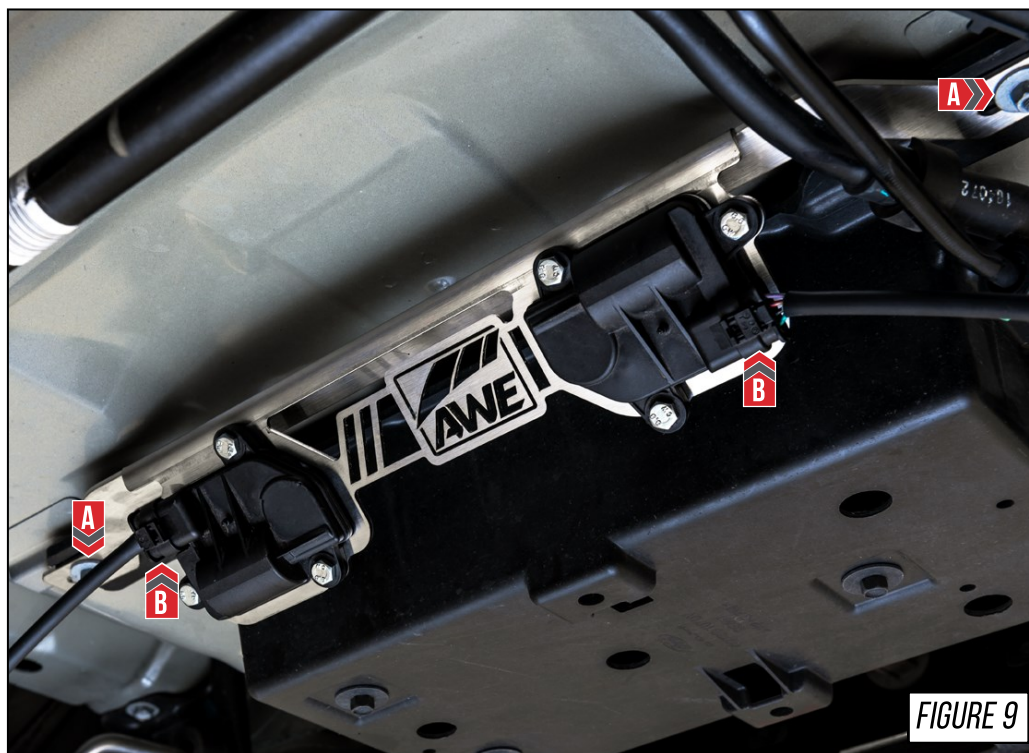

FIGURE 9
Locate the two (2) nuts on the bottom of the spare tire well, underneath of the vehicle, shown by **Arrow A** in **Figure 9**.
Using the included hardware, secure the factory valve motors to the appropriate locations on the bracket and install on vehicle, as shown in **Figure 9**.
Reinstall the factory valve control harness into each motor, as shown by **Arrow B** in **Figure 9**.